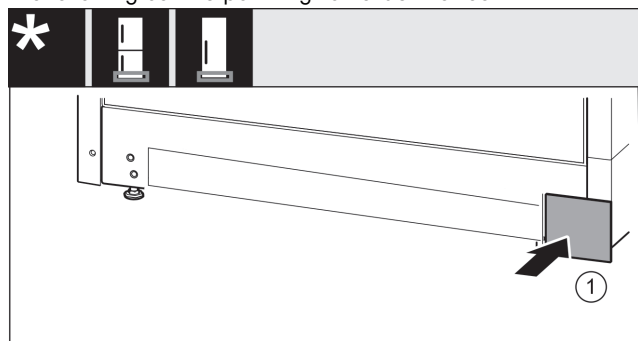

Fig. 20
- Re-attach the cover *Fig. 20 (1)* to the other side.